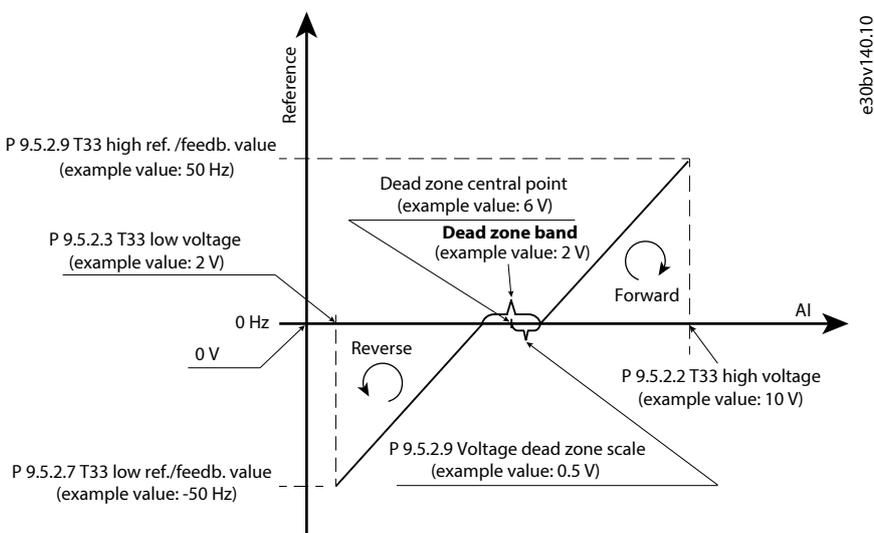

Figure 90: Dead-zone Function Example
- Figure 90 is an example of using T33 analog input (voltage mode, 2–10 V) for dead-zone function to control motor running between the speed from -50 Hz to 50 Hz.